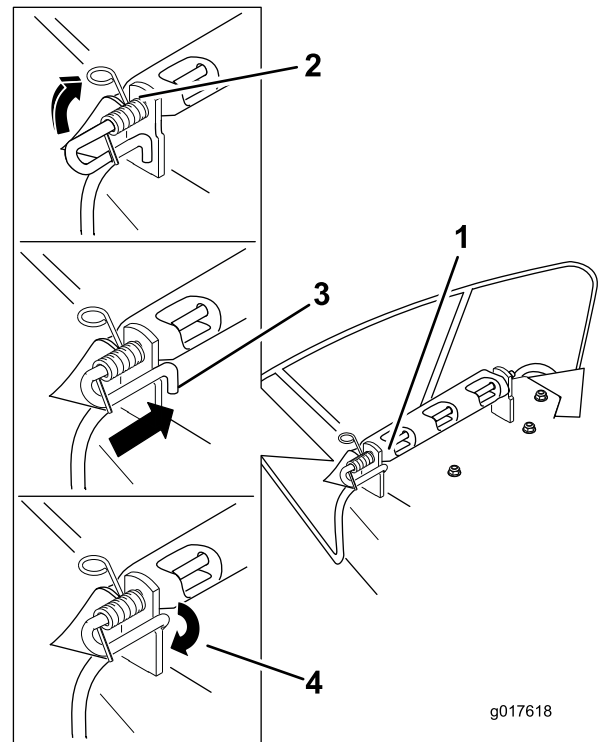

**Figure 61**
1. Disengage the spring from the notch in the deflector bracket and slide the rod out of the welded deck brackets, spring, and discharge deflector (Figure 61).